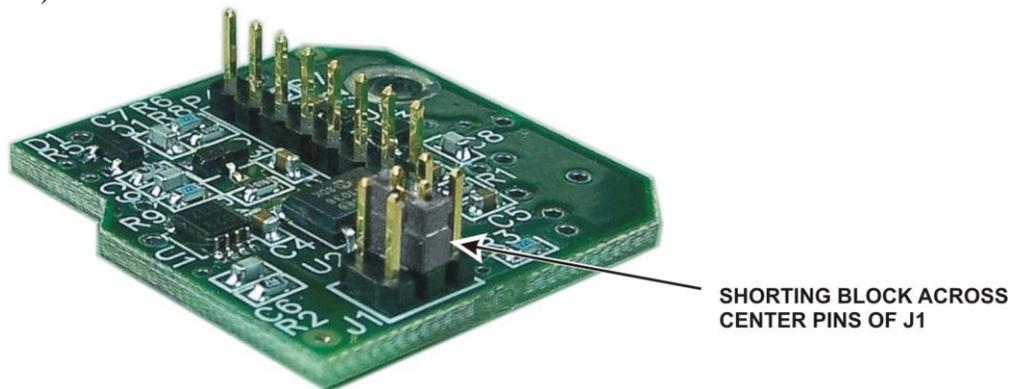

Figure 8. Shorting Block Installed on J1.
- Check the K3EXREF board and, if not already present, install the shorting block across the center pins of J1 (see Figure 8.)